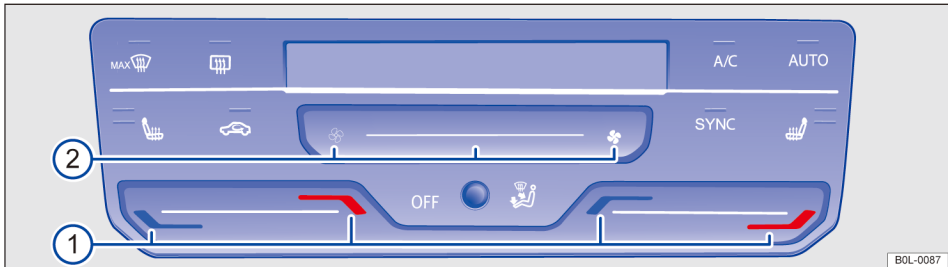

Fig. 78 In the upper part of the centre console: climatronic operating mechanism
- Click the button in the air conditioning menu (OFF) → Fig. 78
- Or: Press the button (OFF) → Fig. 78 (2) the blower adjustment function on the left, until the display screen above the control panel shows OFF.
- Press temperature button → Fig. 78 (1) to adjust the driver and front passenger side temperature.
- Press the blower adjustment button → Fig. 78 (2).
- Press the button (MAX) → Fig. 78.